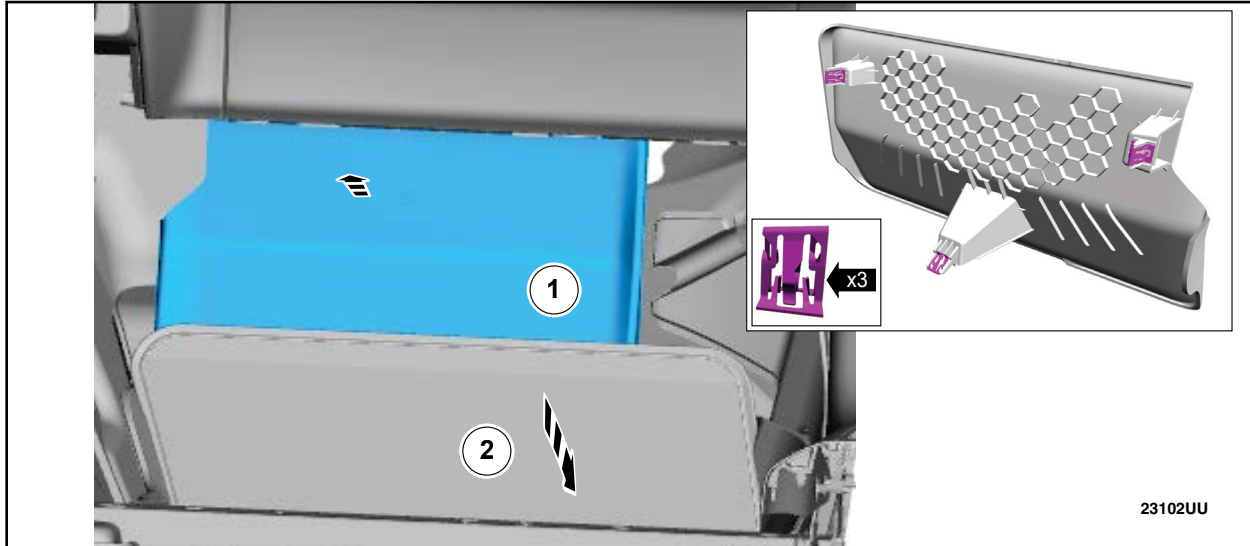

FIGURE 5
7. Remove panel. See Figure 5.